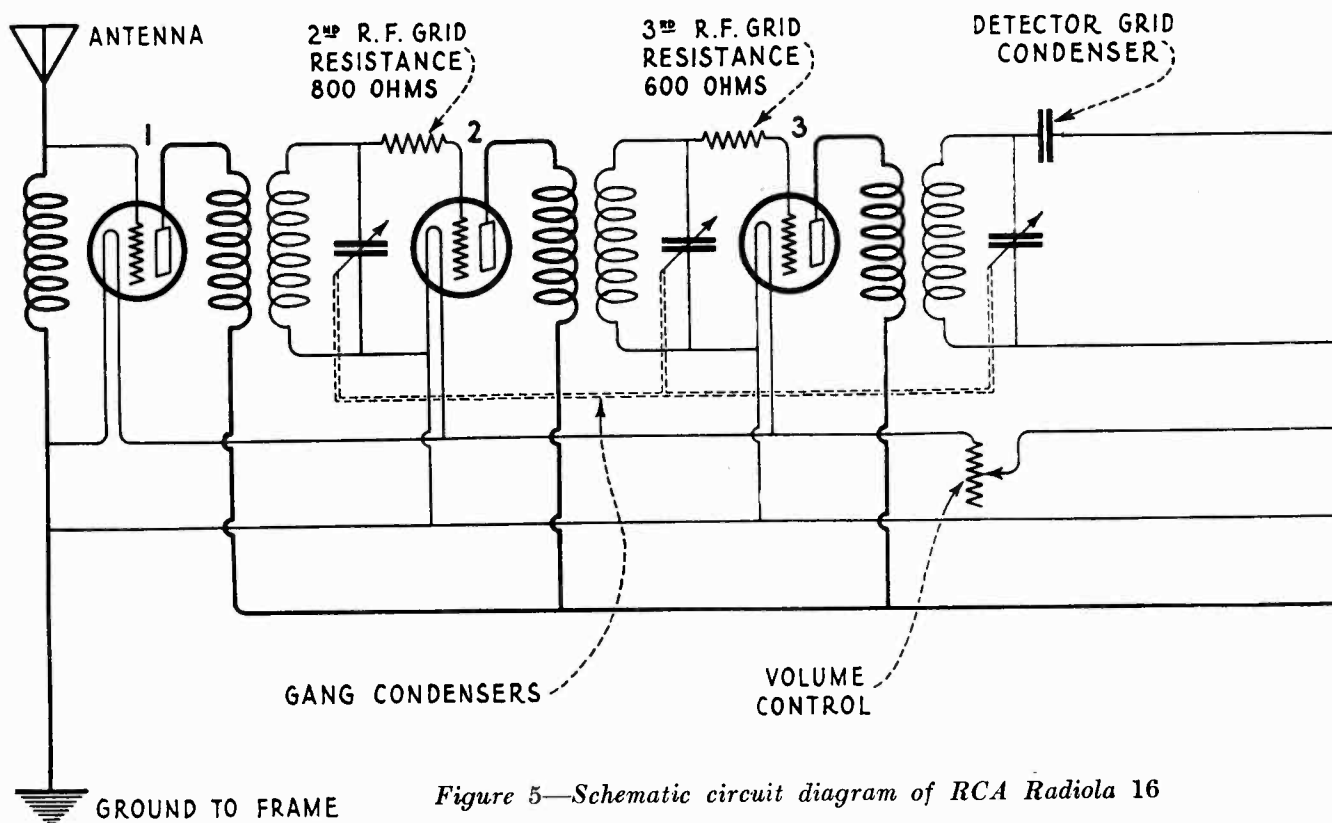

Figure 5—Schematic circuit diagram of RCA Radiola 16
Radiola 16 uses a plate voltage of 67 volts for the radio frequency amplifiers and it is important that this voltage is not exceeded. (See Figure 5). A higher voltage may cause it to oscillate and in all cases seriously affect its tone quality. It is imperative that, when using "B" battery eliminators having fixed 90-volt taps, provision be made for
3. Defective grid resistor in 2nd R. F. or 3rd R. F. (Figure 5).
The values of the various resistances are shown in the schematic diagram Figure 5.